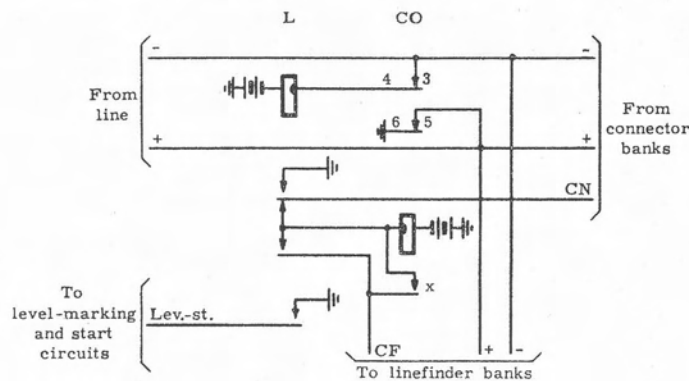

Figure 6. Usual 2-relay line circuit.
A two-relay line circuit is shown in figure 6. When the subscriber lifts his handset to make a call, ground through springs on the cut-off relay (CO), the + line, the subscriber's telephone, the - line, springs of relay CO, and the line relay (L) operates relay L. Relay L grounds connector control lead CN, busying the line to other calls, connects negative battery through relay CO to linefinder control lead CF to mark this line's contacts on the linefinder banks, and grounds lead LEV. ST. to mark the level on which the calling line will be found and to signal the group relays to start a linefinder. The linefinder, connecting to this line, grounds lead CF operating relay CO. Relay CO locks, and removes relay L from across the subscriber's line. Relay L releases, and removes ground from lead LEV. ST. When
**4.1 Marking the calling line.** Lifting the subscriber's handset operates his line relay (figure 6, ground through relay CO contacts 6-5, + line, subscriber's telephone, - line, and relay CO contacts 3-4). Relay L grounds connector lead CN to busy the line to other calls, connects the cut-off relay to linefinder bank contact CF to mark the line, and grounds the appropriate level-